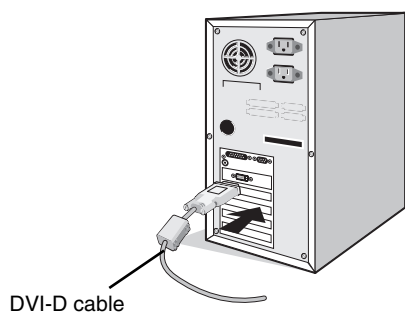

Figure A.1
2. **DVI connection:** Connect the DVI-D cable to the connector of the display controller in your system (**Figure A.1**). Tighten all screws.